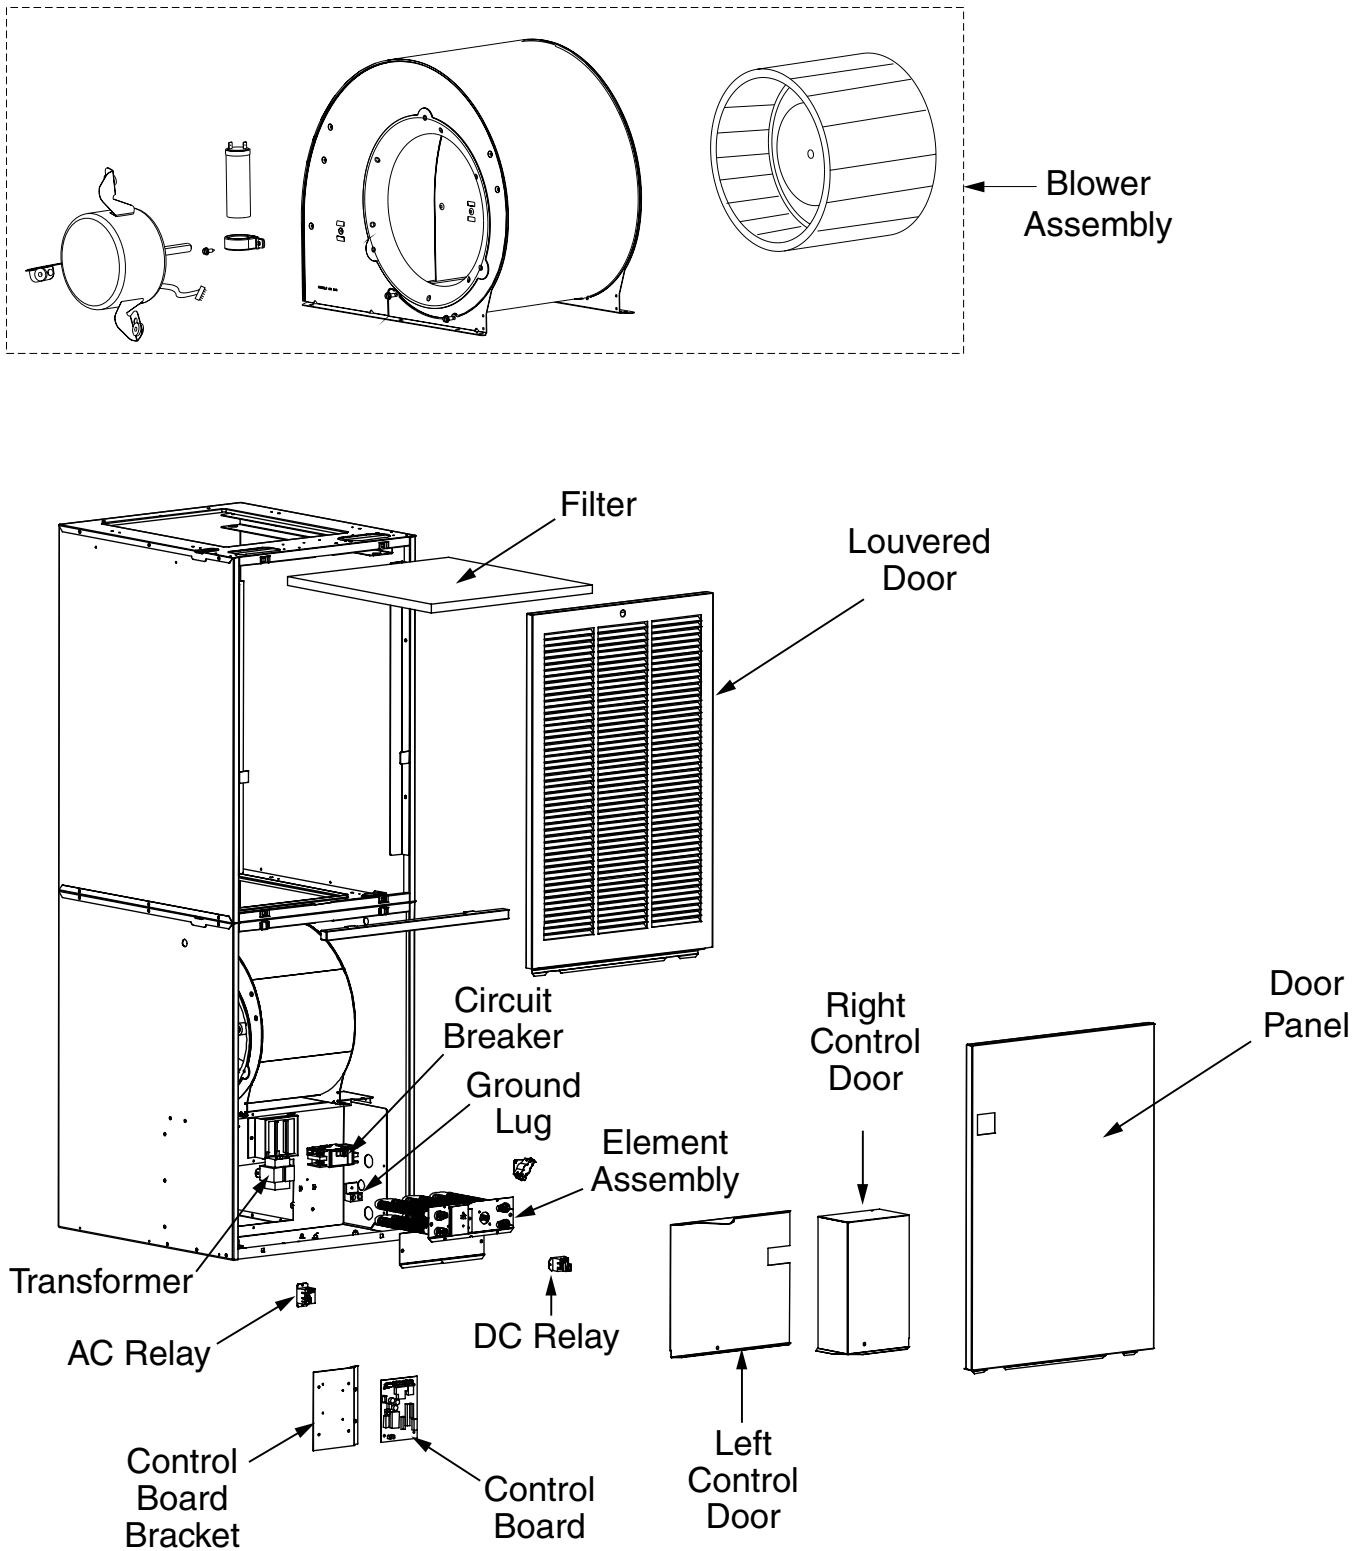

Figure 19. RE9 Furnace Components
It is recommended that the line voltage (240 VAC) to the furnace be supplied from a dedicated branch circuit containing the correct fuse or circuit breaker for the furnace. For minimum circuit ampacity and maximum over-current protection, see Table 6. See unit wiring diagrams (Figure 23, Figure 24, Figure 25, & Figure 26) for wiring details. Electrical components are shown in Figure 19 (page 16). Supply circuit requirements are listed below:
6. Connect service ground wire(s) to grounding lug(s) provided. One ground is required for each supply circuit used. See ground lug in Figure 19 (page 16).